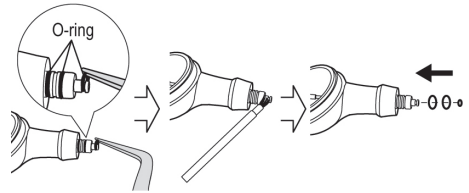

Fig. 22
- * If powder adheres to the O-ring section, remove the O-rings and carefully clean the O-rings and grooves (Fig. 22).